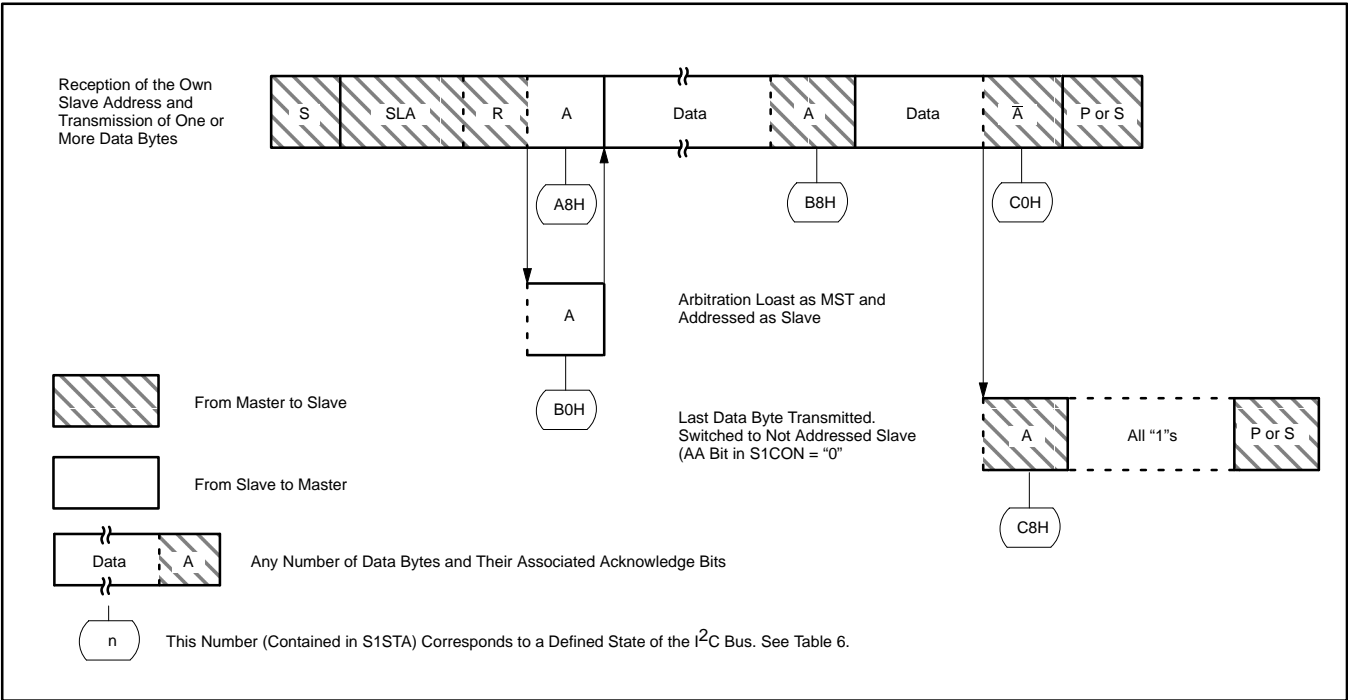

Figure 20. Format and States of the Slave Transmitter Mode
When SIO1 is in the addressed slave transmitter mode, state C8H will be entered after the last serial is transmitted (see Figure 20). When SI is cleared, SIO1 leaves state C8H, enters the not addressed slave receiver mode, and the SDA line remains at a high level. In state C8H, the AA flag can be set again for future address recognition.
**Slave Transmitter Mode:** In the slave transmitter mode, a number of data bytes are transmitted to a master receiver (see Figure 20). Data transfer is initialized as in the slave receiver mode. When S1ADR and S1CON have been initialized, SIO1 waits until it is addressed by its own slave address followed by the data direction bit which must be "1" (R) for SIO1 to operate in the slave transmitter mode. After its own slave address and the R bit have been received, the serial interrupt flag (SI) is set and a valid status code can be read from S1STA. This status code is used to vector to an interrupt service routine, and the appropriate action to be taken for each of these status codes is detailed in Table 6. The slave transmitter mode may also be entered if arbitration is lost while SIO1 is in the master mode (see state B0H).